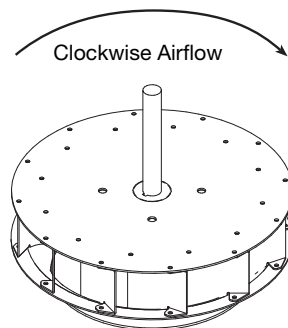

Fig. 8
3. Check wheel rotation (viewing from the shaft side) by momentarily energizing the unit. Rotation should correspond to the rotation decal on the unit, see figure 8. If wheel rotation is incorrect reverse two of the wiring leads or check motor wiring for single phase.
- Start the fan and shut it off immediately to check rotation of the wheel with directional arrow in the motor compartment, see figure 8.